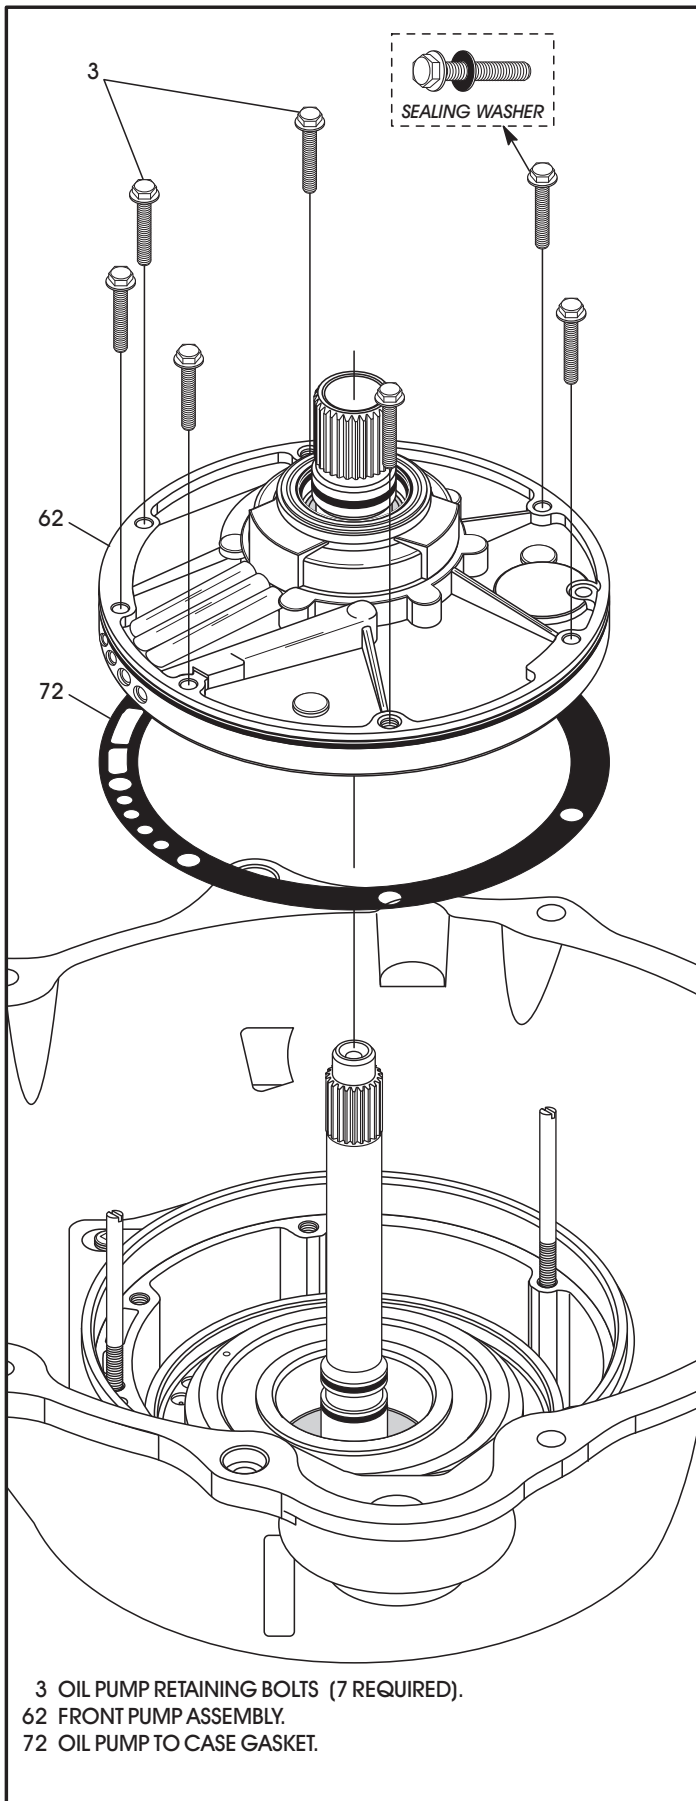

Figure 223
11. Install oil pump pilot studs into case, as shown in Figure 223.
12. Install new oil pump gasket over pilot studs and lay on case, as shown in Figure 223.
14. Ensure number 1 thrust washer is still stuck to back side of stator and install the oil pump, as shown in Figure 223.
15. Install new sealing washers on all pump bolts, as shown in Figure 223.
16. Remove the pilot studs and install the seven oil pump retaining bolts, as shown in Figure 223.